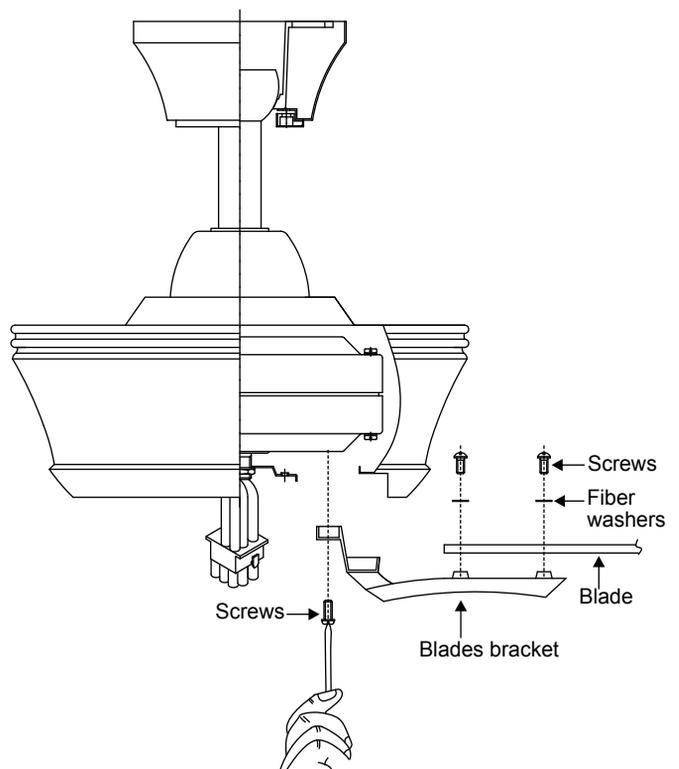

Figure 12
Step 1 Attach the blade to the blade bracket using the screws and fiber washers as shown in Figure 12. Start screw into bracket. Repeat for the two remaining screws.
Step 3 Fasten blade assembly to motor using the screws supplied. (Fig. 12)